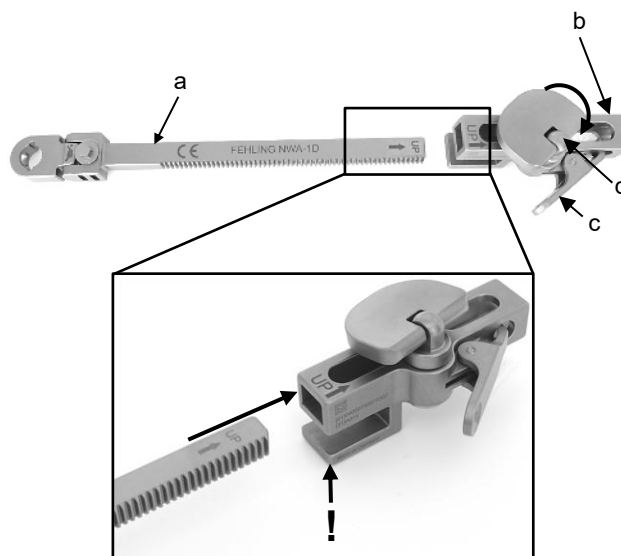

Fig. 22
Both the hook guide (a) and the fixing slide (b) have a side marked "arrow" and "UP". Before inserting the hook guide (a) into the fixing carriage (b), make sure that the two marked sides are facing upwards. The hook guide (a) is inserted into the fixing carriage (b) in the direction indicated by the arrow (Fig. 22). The arrow on the fixing carriage (b) refers exclusively to the insertion of the hook guide (a) and not to the mounting of the retractor frame.
**Important:** The fixing carriage (b) must be aligned so that its U-profile is open towards the situs (Fig. 22).